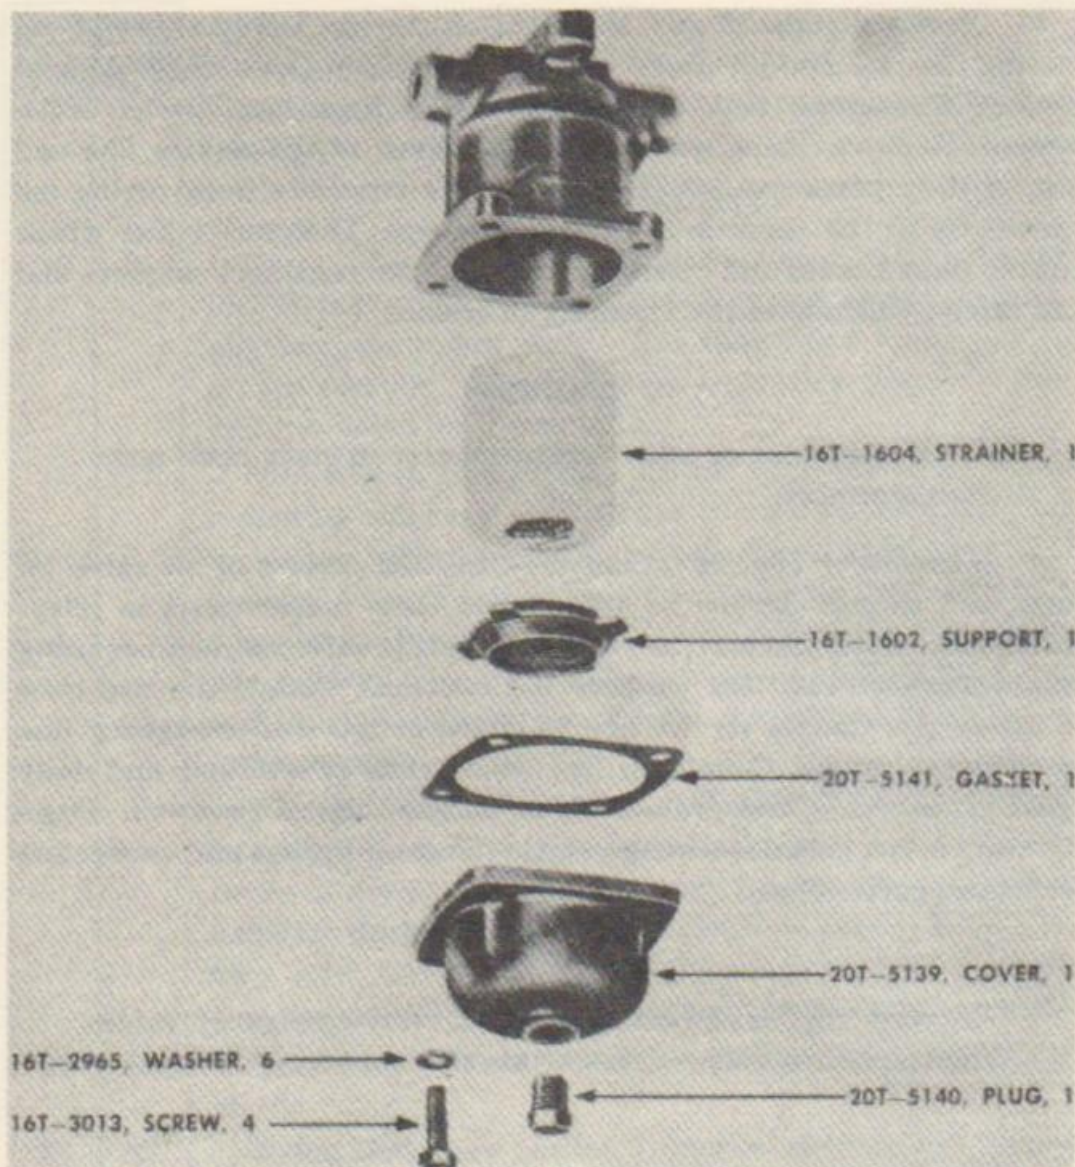

FIGURE 27. AIR FILTER—EXPLODED VIEW
c. Disassembly (fig. 27). Remove cap screws and lock washers attaching cover to body. Remove gasket, strainer support and strainer.
e. Reassembly (fig. 27). Position strainer in body. Position gasket and strainer support on cover and install cover using four cap screws and four lock washers.